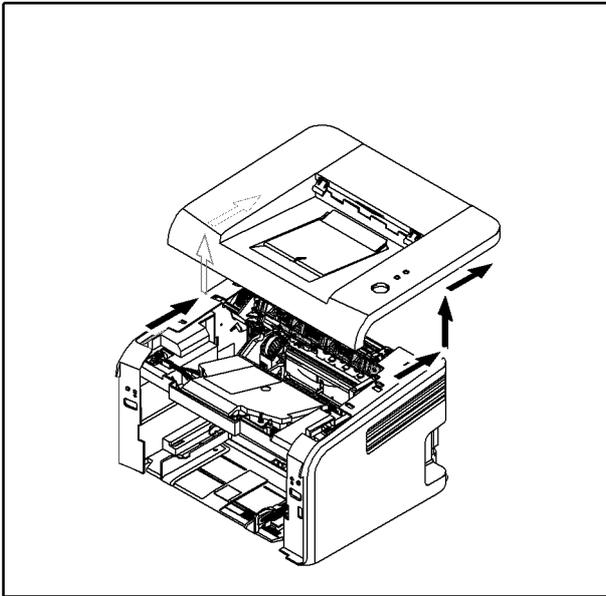

Figure 2
5. Gently flex the top cover in the direction of the arrows, then remove the top cover, Figure 2.